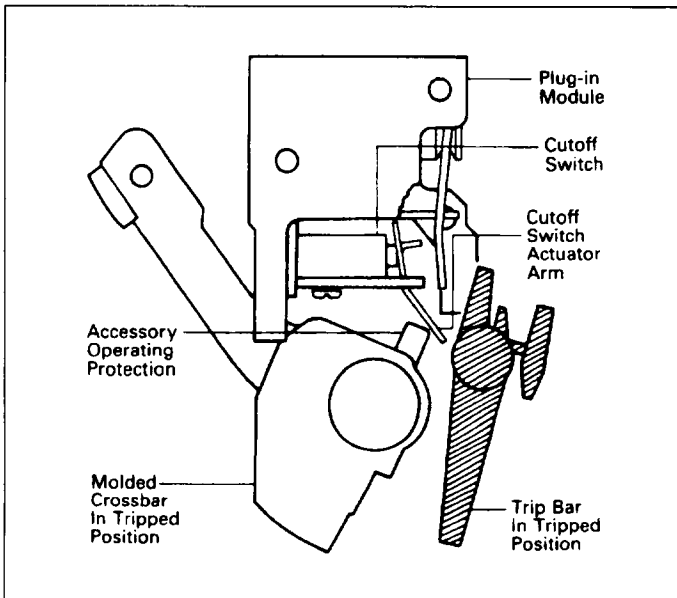

Fig. 2-5. Correct Position for Cutout Switch Actuator Arm and Molded Crossbar
- c. End of actuator arm should be between crossbar and trip bar (see Fig. 2-5). For terminal block assemblies, slide terminal block into mounting slot in side of base as plug-in module is being positioned.